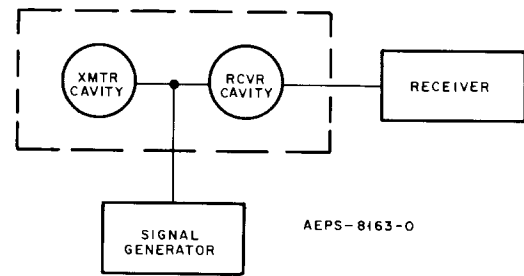

Figure 6.
Step 5. Connect the equipment as shown in Figure 6.
Step 3. Connect the equipment as shown in Figure 6.